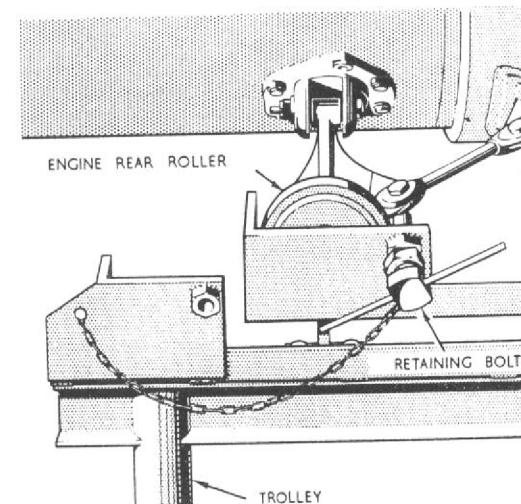

Fig. 17. Securing engine rear roller on trolley
(12) Withdraw the engine from the aircraft on to the trolley, and secure by placing the retaining bolts in front of the engine rear rollers at the end of the roller rails (fig. 17). Withdraw the split bolt to disengage the trolley from frame 40A. Lower the trolley on to its wheels and tow away.